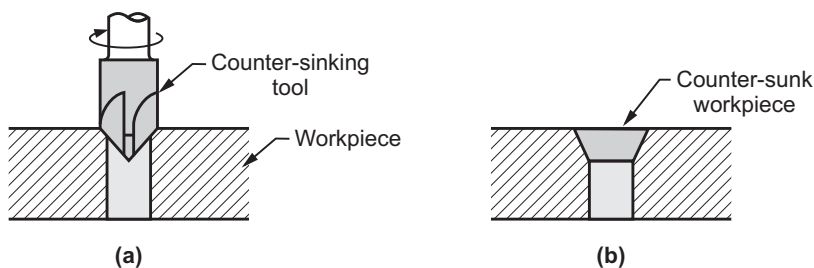

Fig. 5.17 : Counter-sinking operation
- Fig. 5.17 shows countersinking operation in which the tool used is called as countersunk.